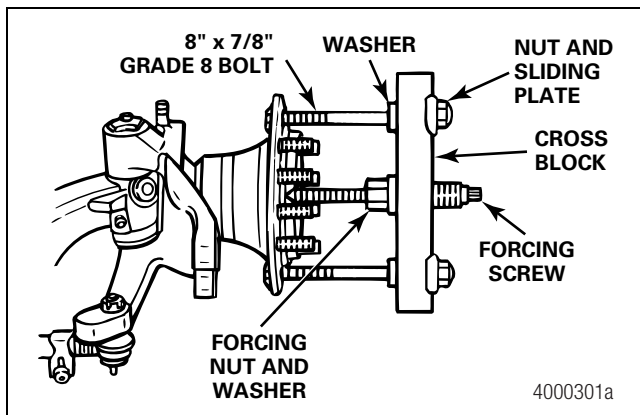

Figure 4.6
- C. Use a wrench to gradually tighten the forcing nut and washer against the cross block to separate the unitized wheel end from the knuckle spindle. Figure 4.6.